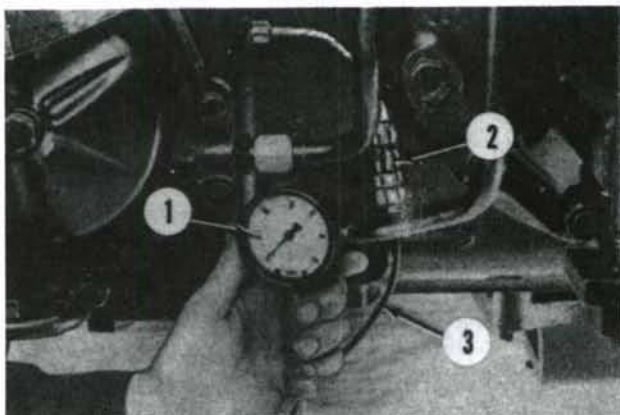

Fig. 148—Pressure gage connected to tee to check pto clutch pressure.
126. To check operating pressure, operate tractor until hydraulic fluid is warmed to at least 100° F (38° C). Refer to Fig. 148 and connect a 0-300 psi (0-2000 kPa) pressure gage (1) to the tee fitting (2). Start tractor and operate at low idle speed. Move pto control lever forward to engaged position. Pressure reading